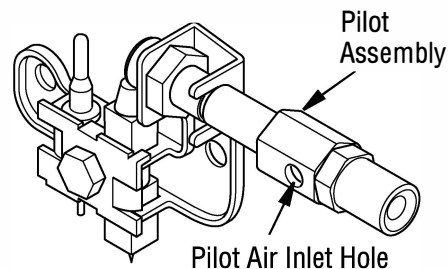

Figure 42 - Pilot Inlet Air Hole
2. Inspect burner, pilot and primary air inlet holes on injector holder for dust and dirt (see **Figure 42**).
6. In case any large clumps of dust have now been pushed into the burner repeat steps 3 and 4. Clean pilot assembly also. Additional cleaning may be needed for proper pilot operation based on use/lack of use. A yellow tip on the pilot flame may indicate dust and dirt in the pilot assembly. There is a small pilot air inlet hole about from where the pilot flame comes out of pilot assembly (see **Figure 42**). With unit off, lightly blow air through air inlet hole. You may blow through a drinking straw if compressed air is not available.